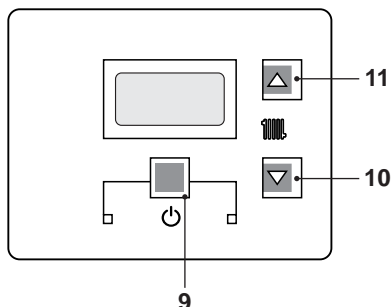
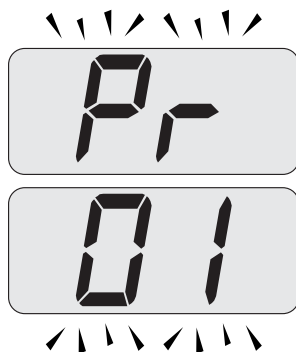

Fig. 9.10
Fig. 9.11
- Enter in "programming mode" by pressing keys 9- 10- 11(Fig. 9.10) for 10 seconds at the same time until the letters **Pr** that alternate with code **01** are displayed on the LCD display, indicating that "parameter 01"(Fig. 9.11) has been activated.
- Press keys 10 and 11(Fig. 9.10) at the same time until the LCD display displays the letters **LP** that alternate with the heating water temperature value (e.g. **45**), indicating the activation of the "chimney sweep function" at minimum output (Fig. 9.12).
- Press keys 9- 10- 11 (Fig. 9.10) at the same time again to exit the "chimney sweep mode" and return to the previously set boiler status (Fig. 9.15).